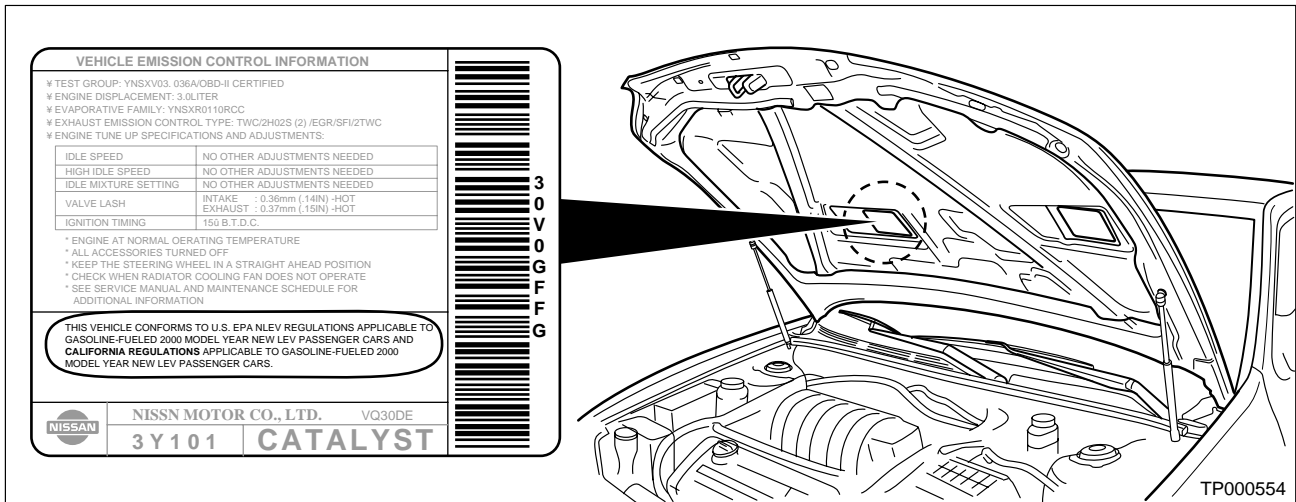

Figure 2
- Check the Emissions Certification Label on the underside of the engine hood to verify if the certificate is for California emissions (see Figure 2).